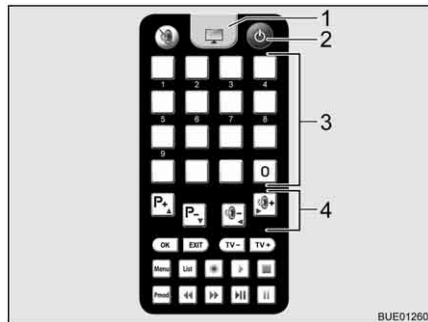

Fig. 21 Remote control
- Press the key "⏻" (Fig. 21,2) on the remote control.
- Use the memory buttons (Fig. 21,3) or the function buttons (Fig. 21,4) to set the required transmitter.